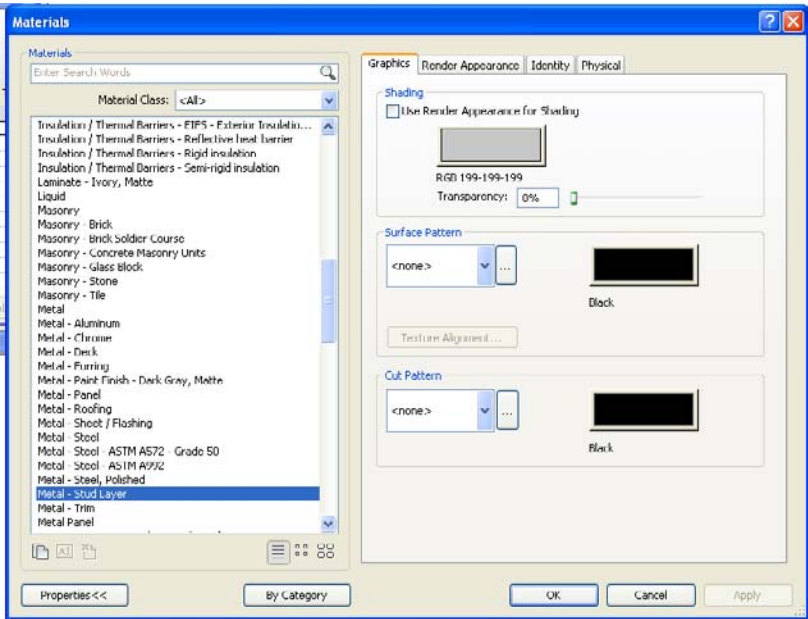

Figure 3.61
3. Select the material Metal – Stud Layer (Figure 3.61), and click OK.